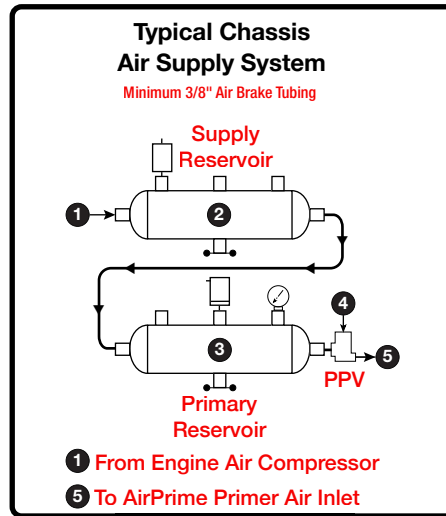

Figure 4
The AirPrime must be connected to the vehicle's air brake system exactly as shown in **Figure 4** below. The schematic below is typical for most trucks built today.
The air source used to supply the AirPrime shall be from the primary air reservoir ❸ in **Figure 4** or a secondary air reservoir (normally used for air horns, air accessories or fire pump shifting system).
The supply line from the Pressure Protection Valve (PPV) ❹ in **Figure 4** to the primer control should be a minimum size of 3/8" OD air brake tubing and connected at both ends with 1/4" NPT fittings (connections and tubing must be rated for air brake service). The tubing should be kept as short as possible, secured at regular intervals, free of any kinks or bends and must not be run near exhaust pipes (Stay 6" [150 mm] away from any exhaust or hot components), muffler, or rotating shafts. Use grommets to protect the tubing lines from contacting sharp edges at hole locations.
The Pressure Protection Valve (4) is not supplied with the basic primer kit. A Trident PPV, Part #30.053.0 may be purchased separately, a Bendix PPV, Style PR-4, Part #288323 or its equivalent may be used. The PPV valve must be installed per **Figure 4** between the primary air supply reservoir ❸ and the AirPrime primer air inlet. The valve protects the air brake system from any leaks that may occur in the primer control or the line from the PPV to the primer control. The pressure setting for the PPV is 80 PSIG maximum.